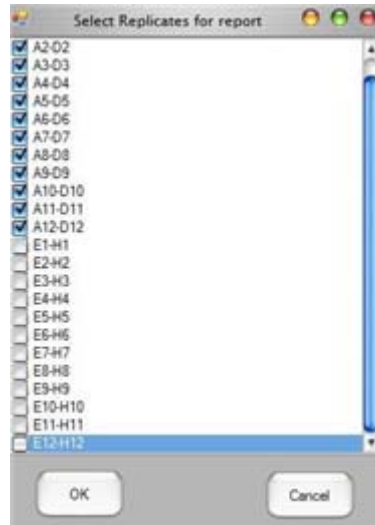

Figure 35. Select Replicates for Report
- 6 Double-click inside the **Replicates** column to select the replicate wells to be analyzed (see Figure 35 on page 59).